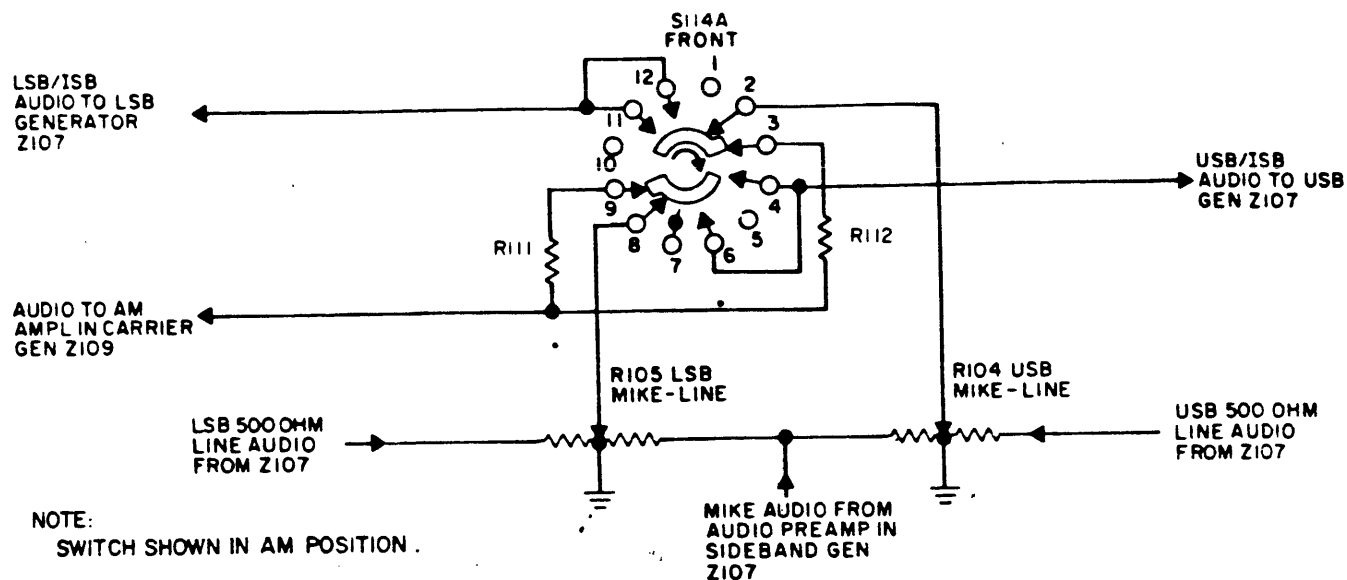

Figure 4-5. Audio mode switching, simplified schematic diagram.
4.4.9.1 In the audio modes (figure 4-5), microphone or 500-ohm line audio inputs from the upper and/or lower sideband generators are developed across half of the respective MIKE/LINE control and sent to MODE switch S114A (front). Consider upper sideband (USB) audio. Microphone audio from the audio pre-amplifier circuit is developed across the MIKE half of USB MIKE/LINE control R104 and is applied to contact 2 of S114A.